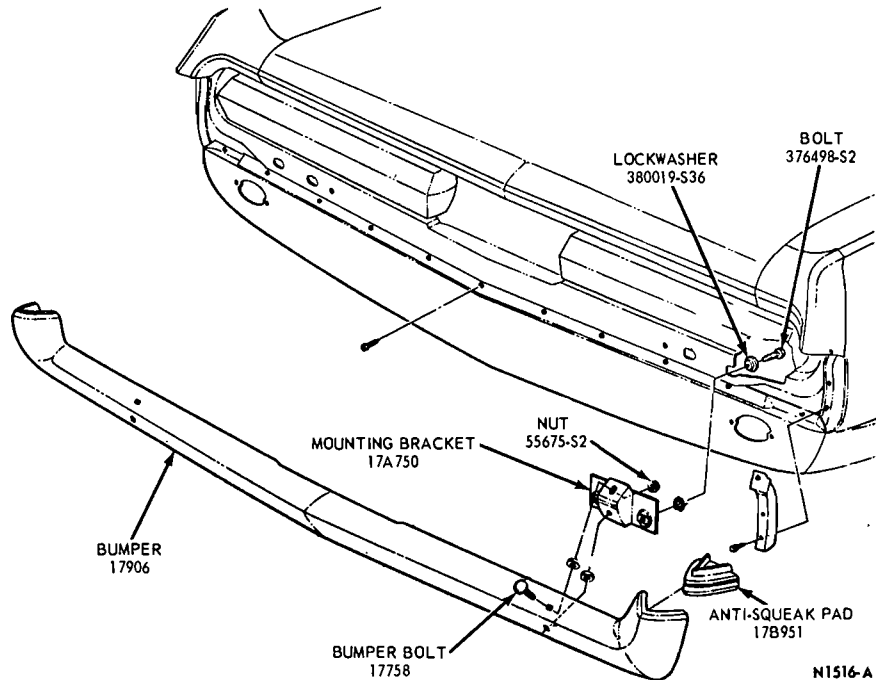

FIG. 17—Cougar Rear Bumper Installation
2. Remove four bolts attaching the bumper and mounting brackets to the back panel and remove the bumper (Fig. 17).
2. Position the mounting brackets to the bumper and install the attaching bolts and nuts (Fig. 17).